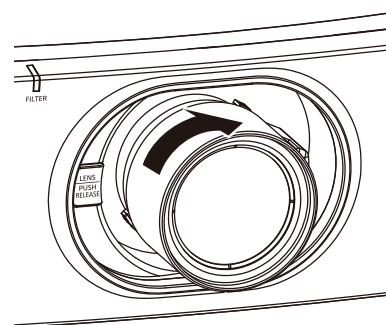

Fig.2
- 2) Turn the projection lens clockwise until it clicks. (Fig. 2)